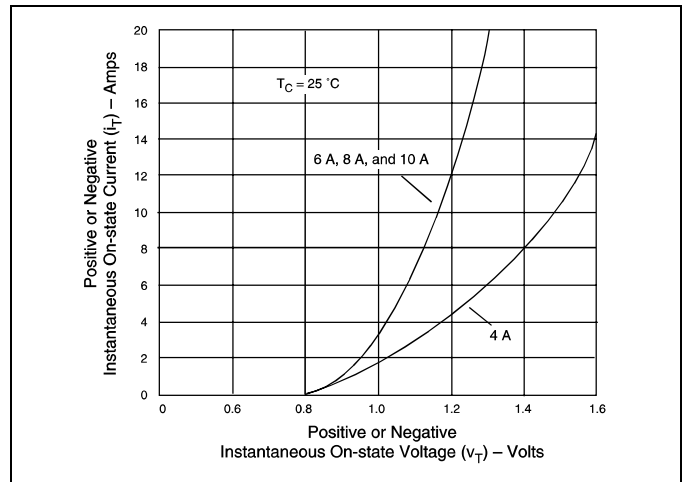
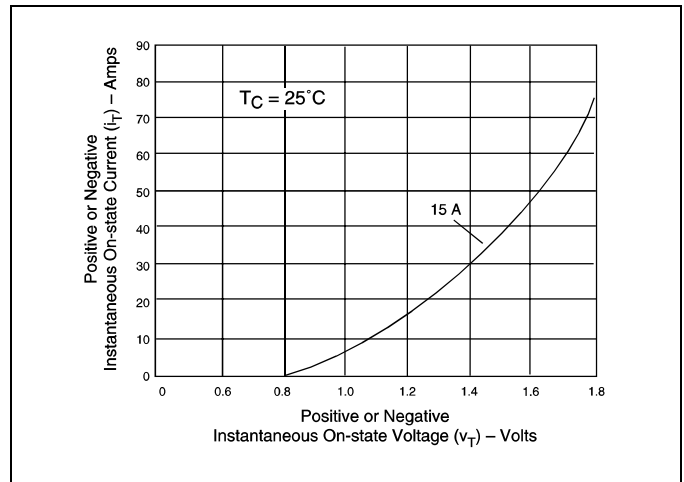

Figure E3.4 On-state Current versus On-state Voltage (Typical) (4 A to 10 A)
Figure E3.5 On-state Current versus On-state Voltage (Typical) (15 A)
- (3) See Figure E3.4 and Figure E3.5 for i_T versus v_T .